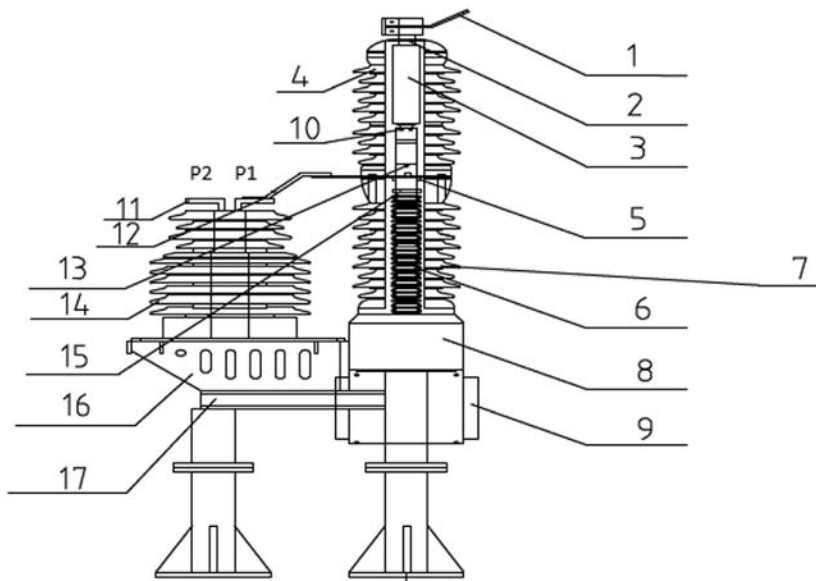

FIG 1 Interior Structure of Main conductive Circuit
- When the CTB36 circuit breaker is at the closing position, the main circuit current can be seen in Fig 1.
- The power supply flows from the upper incoming line (1) and passes through the incoming line end (2) over the extinguishing chamber to the stationary contact inside the vacuum extinguishing chamber, then it passes through the moving contact and through the conductive clamp (10) and soft connection 1 (13) to the lower outgoing line (5), through the soft connection (12) to the current transformer (14) incoming line end P1 and finally it outputs via outgoing line P2. (11)